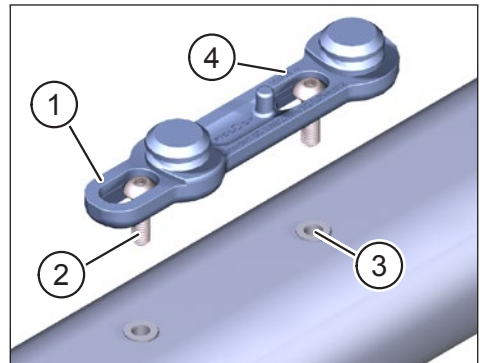

Fig. 1: Fasten the FIDLOCK® Bike Base to the e-bike
- ▶ Fasten the FIDLOCK® Bike Base (Pos. 1 in Fig. 1) with the two button head screws (Pos. 2 in Fig. 1) in the threads provided for this purpose (Pos. 3 in Fig. 1, follow the specifications of the bicycle manufacturer) inside the e-bike frame.